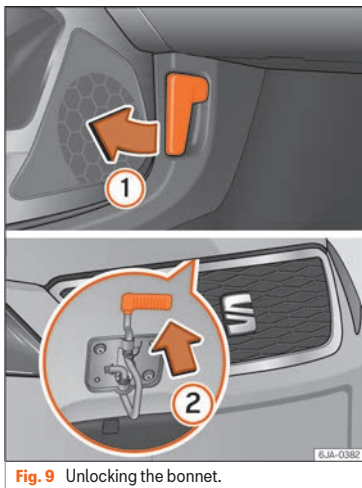
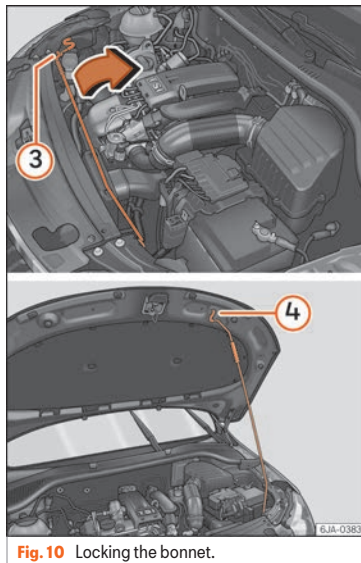

Fig. 9 Unlocking the bonnet.
Fig. 10 Locking the bonnet.
- Open the door and pull the lever under the dashboard » **Fig. 9 ①**.
- To lift the bonnet: press the release catch under the bonnet upwards **②**. The arrester hook under the bonnet is released.
- The bonnet can be opened. Release the bonnet stay in the direction of the arrow » **Fig. 10 ③** and secure it in the fixture designed for this in the bonnet **④**.